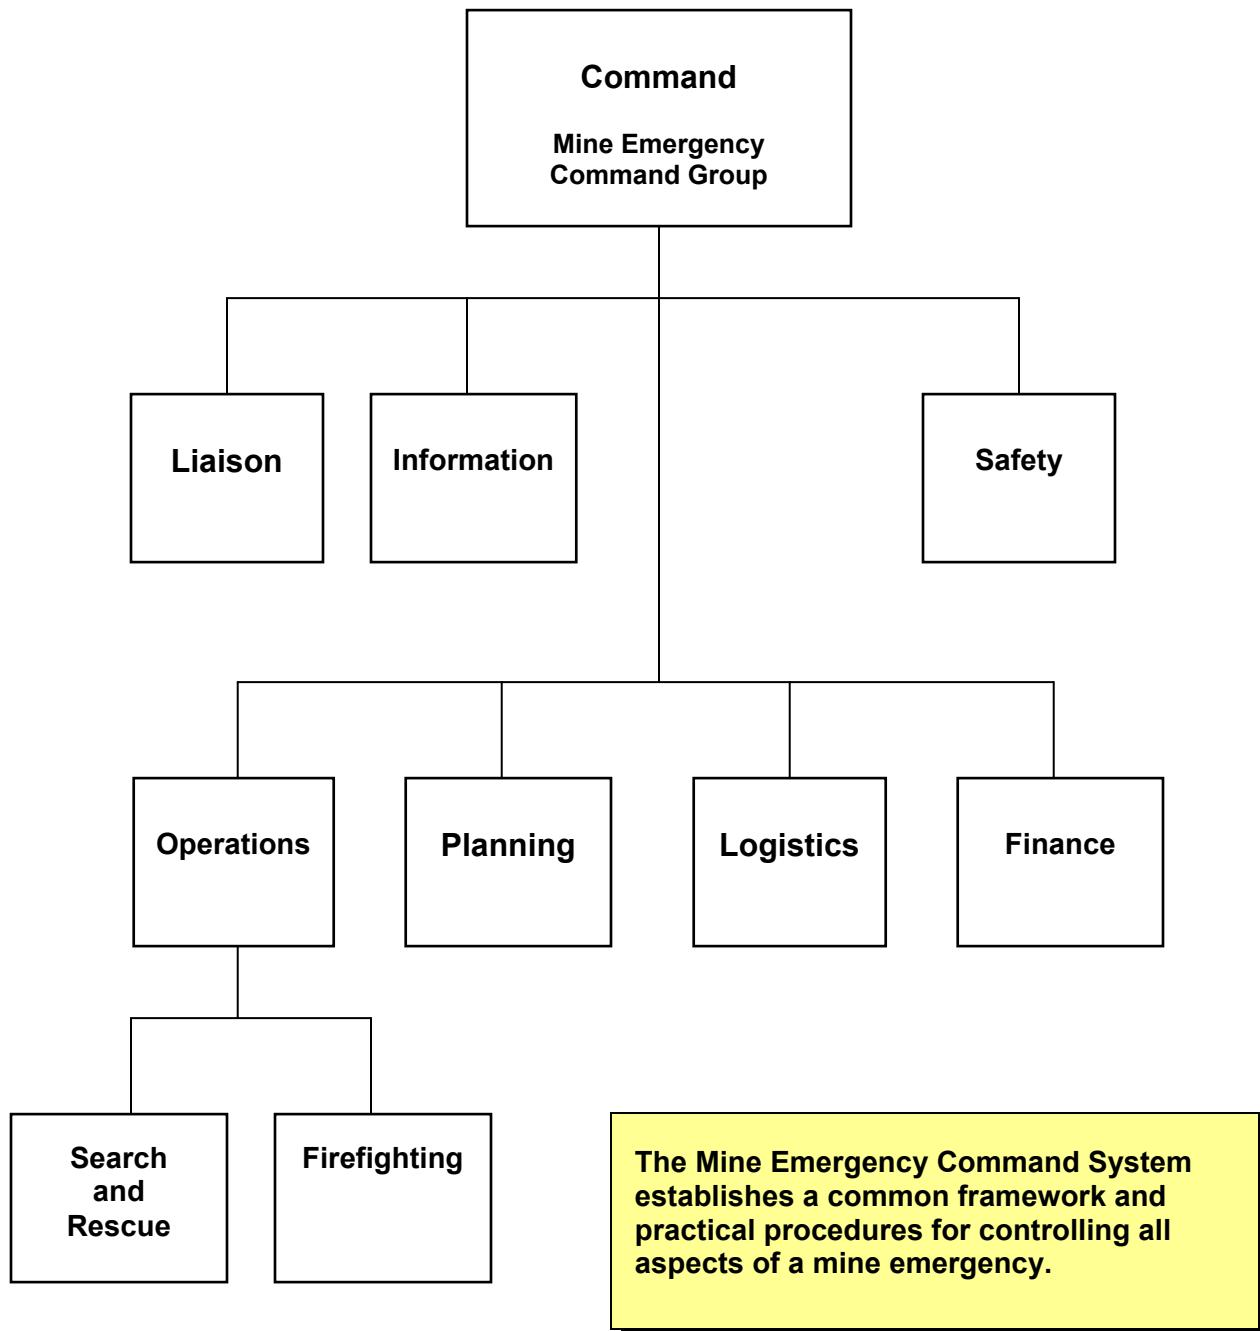

Figure 1
**NOTE:** Refer to **Figure 1** on the next page which illustrates the structure of the Mine Emergency Command System.